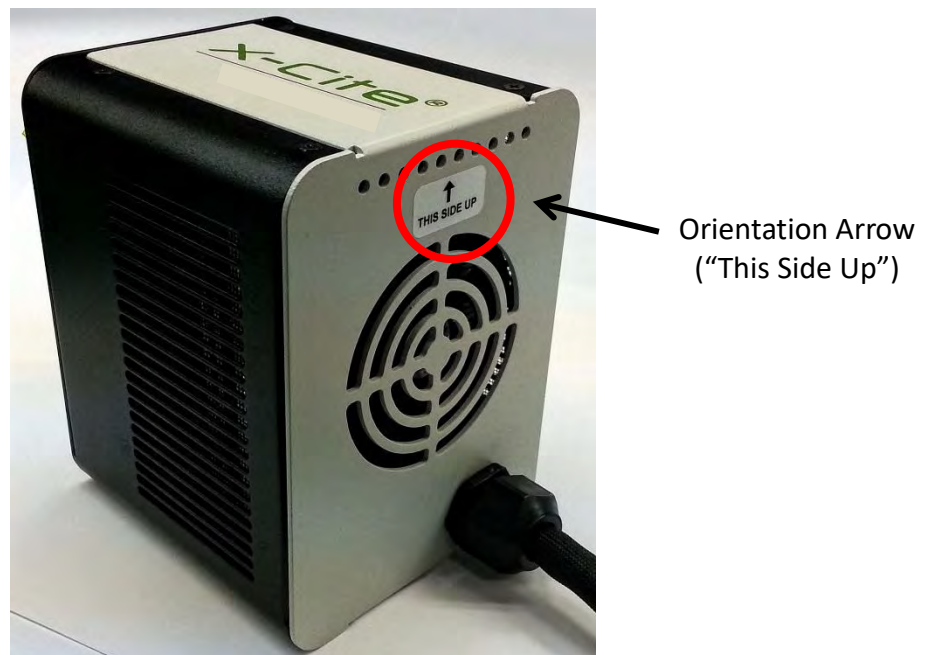

Figure 5 LED Head and Arrow in Correct Position
- iv. Olympus - Tighten the hex fastener(s) with the 3mm Hex Tool. Depending on the model, there may be one (1) fastener on the side, or two (2) fasteners located at the 10:00 and 2:00 positions. **Note for IX3-RFAL use: the epi-light train aperture MUST be properly aligned before turning on X-Cite® mini+, or heat damage may result** - see procedure in Olympus manual for assistance.
- b. Verify that the LED Head is oriented with the arrow label (rear side of the LED Head) is pointing up (see Figure 5).